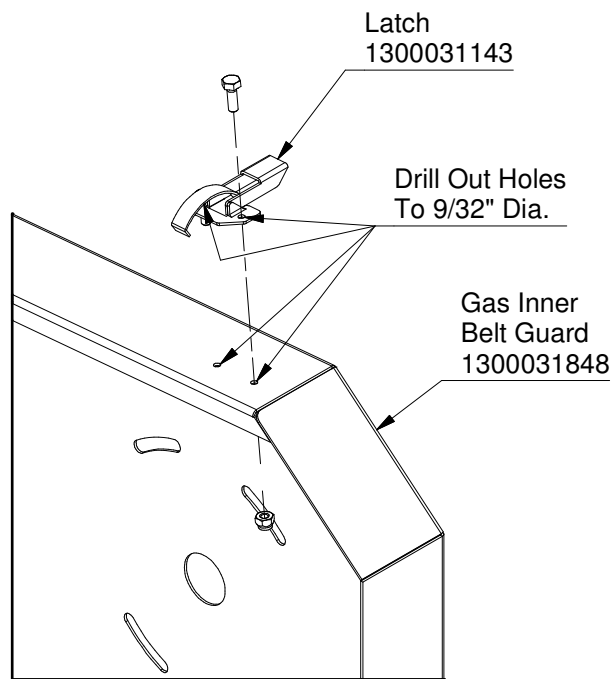

FIGURE 3
3. Before mounting the Latches to the Gas Inner Belt Guard, the holes must be drilled out to 9/32" dia. After drilling out the holes, fasten the Latches to the Gas Inner Belt Guard using (4) 1/4" x 3/4" Hex Bolts and Nylock Nuts from Bolt Bag 1300008839 included in this kit. See Figure 3. These fasteners replace the (4) Pop Rivets (PN 1300012017) in Bolt Bag 1300060242 found in HVST T1032 Gas Option Kit 13000PBT10062.